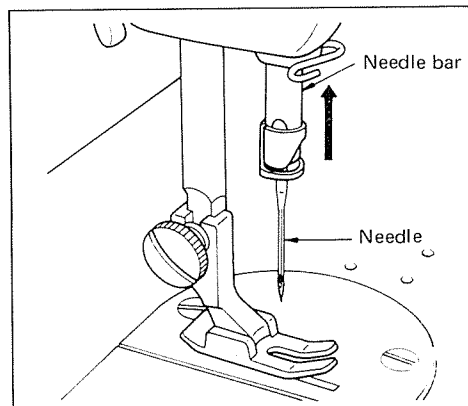

Fig. 4
4. Attaching the needle (Fig.4)
In adjusting the pressure of the presser foot, turn the presser foot adjusting screw (Fig.4 ④) on the top surface of the machine head. For increasing the pressure, turn the screw clockwise; for decreasing it, turn the screw counterclockwise. Since the pressure of the presser foot may be sufficient, if it can prevent the material from following up the needle and advance the material together with the feed properly, so you need not to make it unduly high.